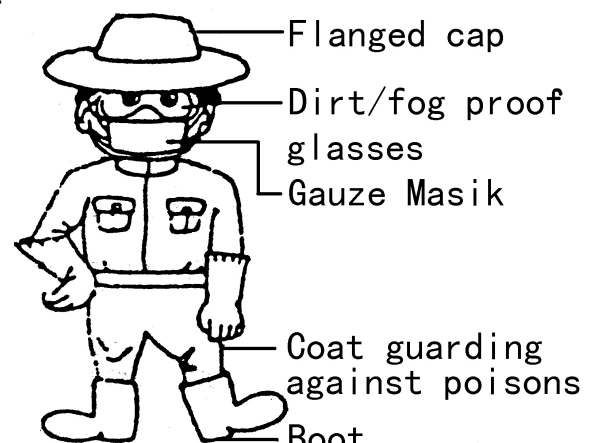

Fig. 14
5. Starting engine (Fig 14)
Even though dust gate is closed, residual dust in pipe will be blown out. Shown in Fig 14.